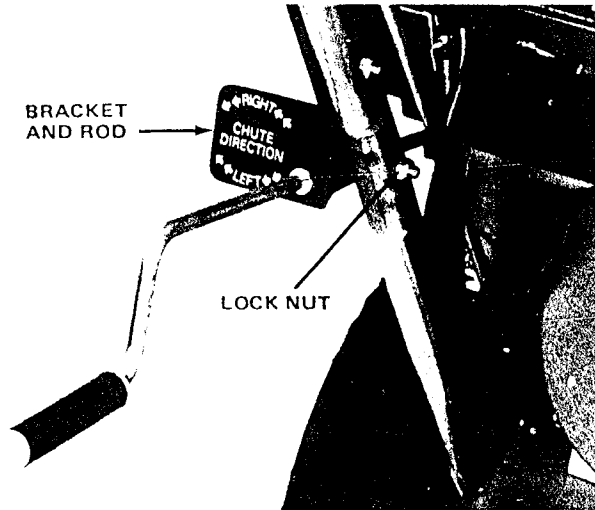
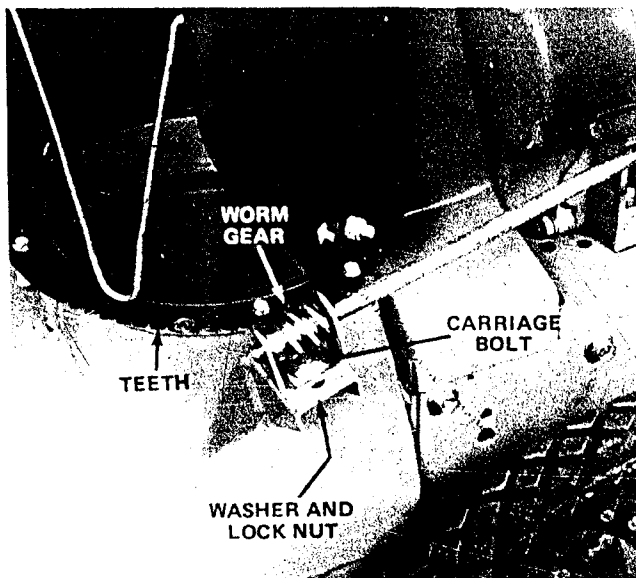

Figure 9
Figure 10
1. Install chute control bracket and rod against left side of handle with cap screw and lock nut (Fig. 9); but do not tighten the lock nut.
2. Apply no. 2 wheel bearing grease on worm gear (Fig. 10). Next, mount worm bracket and gear on top of mounting flange with carriage bolt, pyramidal washer and cone lock nut (Fig. 10). Do not tighten lock nut.
3. Push worm firmly against teeth in retaining ring; then tighten lock nut (Fig. 10). Also tighten lock nut holding chute control bracket against handle (Fig. 9).